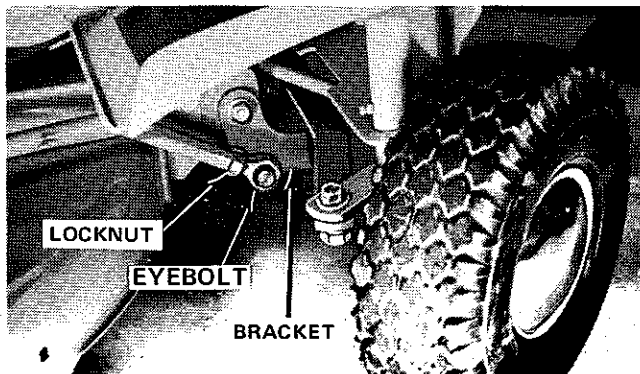

Figure 3-6. Mower Front-To-Rear Pitch Adjustment
6. To raise or lower the front edge of mower, remove eyebolt from both sides of bracket (Figure 3-6). Loosen locknut and adjust turnbuckle so mower is 1/4" higher in the rear. Tighten lock nut and secure eyebolt on bracket.